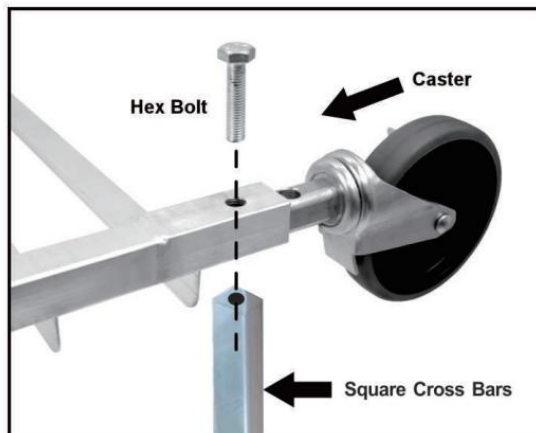

Figure 3.1
3.1) Insert the 4 Casters into bottom ends of the side frames. Make sure the holes in the casters line up with the holes in the frame (Figure 3.1)